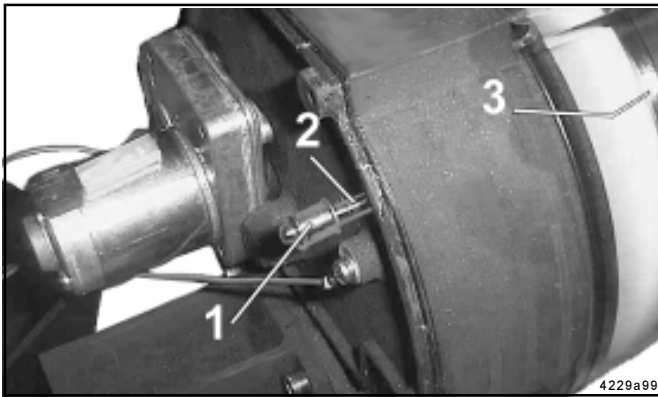

Fig. 17 -Parts of low-level control, QLS 301
- When the reservoir is empty, the follower plate (3) (Fig. 17 and 19) of the reservoir moves the pin (2) (Fig. 17) with the magnet (1) ahead of the printed circuit board and initiates an external low-level signal.